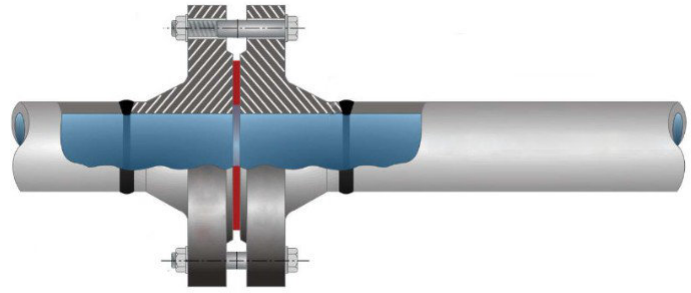

Figure 2
- Flat flange to weld VI2278, illustrated in Figure 2;
- Bride plate à souder VI2278, illustrée à la figure 2 ;